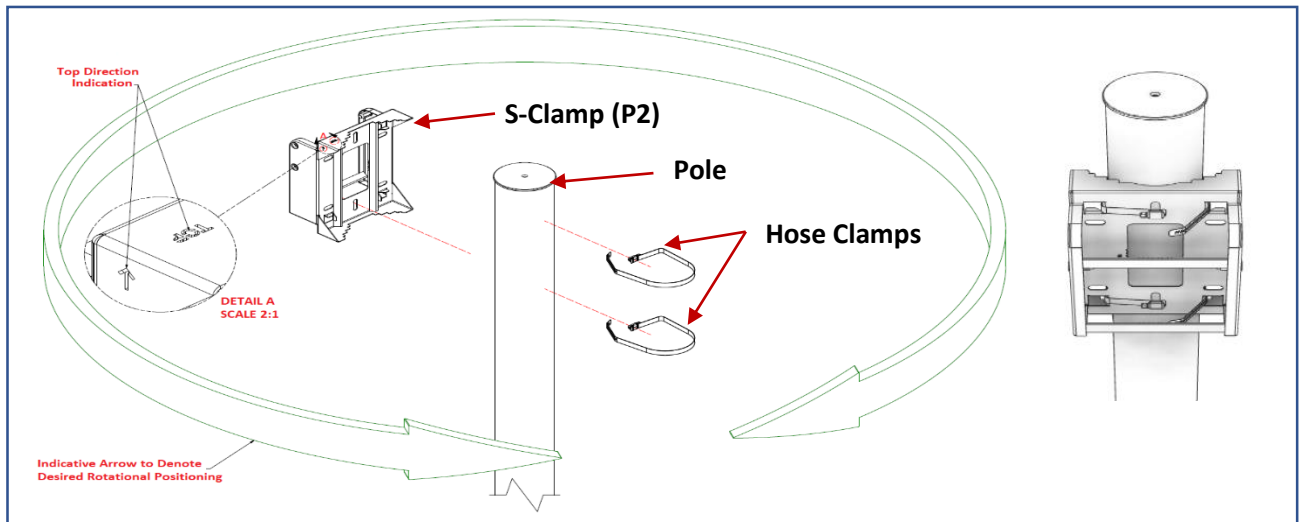

Fig. 5
STEP 5: Insert **one hose clamp on top side** and **second on the bottom side** of the S-Clamp (P2) rectangular slots keeping the pole in loop. Keep the screw part of hose clamp inside the S-Clamp P2. Fig. 5